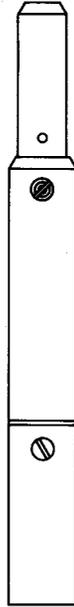

Fig. 6—455A Plug
**2.06 455A:** The 455A plug (Fig. 6) consists of a modified 337C plug and a modified 211A terminal, which is soldered together by a 2297-ohm (221A) resistor, connected to the center terminals.